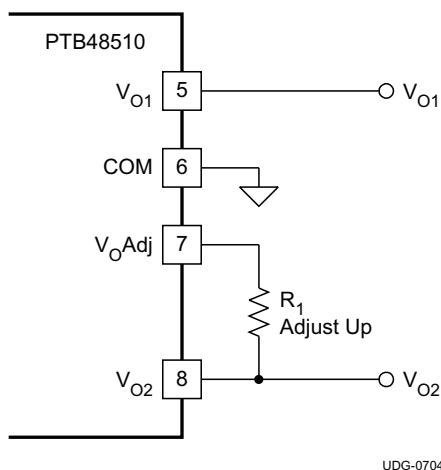

Figure 16. Adjust Up Resistor Placement
**Adjust Up:** To increase the magnitude of both output voltages, place a resistor  $R_1$  between  $V_{O1Adj}$  (pin 7) and the  $V_{O2}$  (pin 8) voltage rail; see Figure 16.